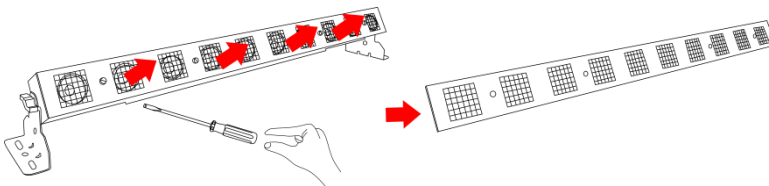

Fig.05
- 02) Gently remove the metal housing (Fig. 05).